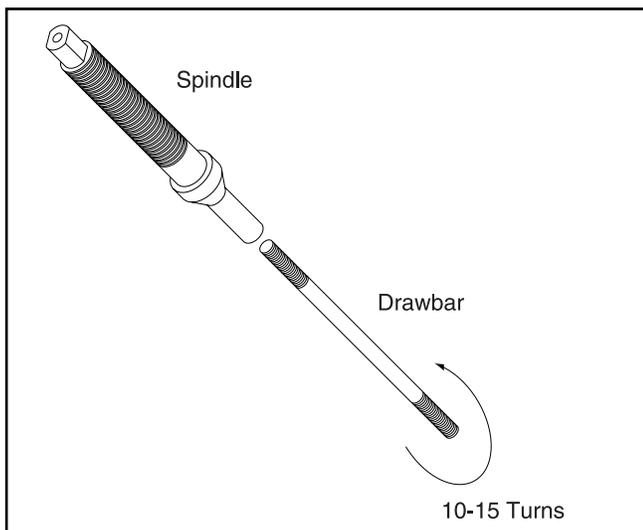

Figure 3. Spindle and drawbar.
2. Thread the drawbar approximately 10-15 turns into the bottom of the spindle. The drawbar has two threaded ends. One of them remains exposed. **See Figure 3.**